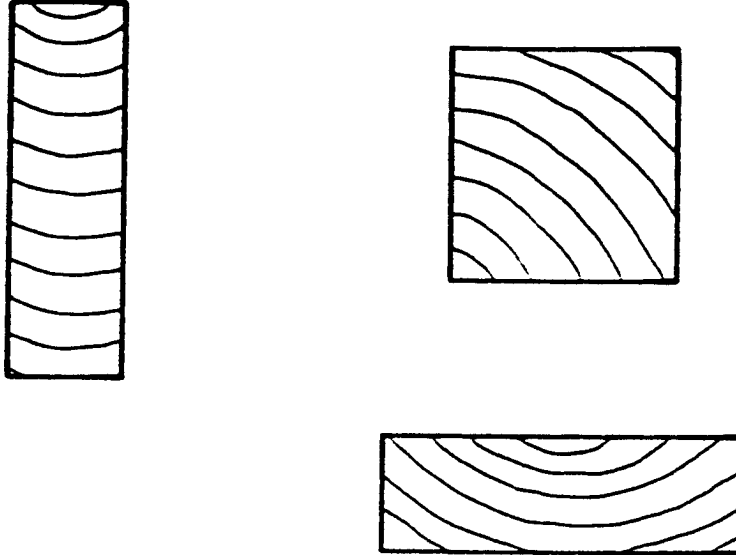

FIG. 7
- (e) Figure 7 shows the end-grain of three sawn planks before seasoning. On Figure 7, draw the new shape of each plank following poor seasoning.